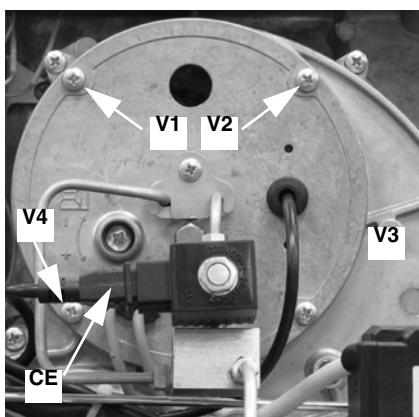

Fig. 41
- Remove the 4 screws **V1** - **V4** shown in Fig. 41.
- Reassemble the combustion head and tighten the 4 screws V1 - V4 (Fig. 41).